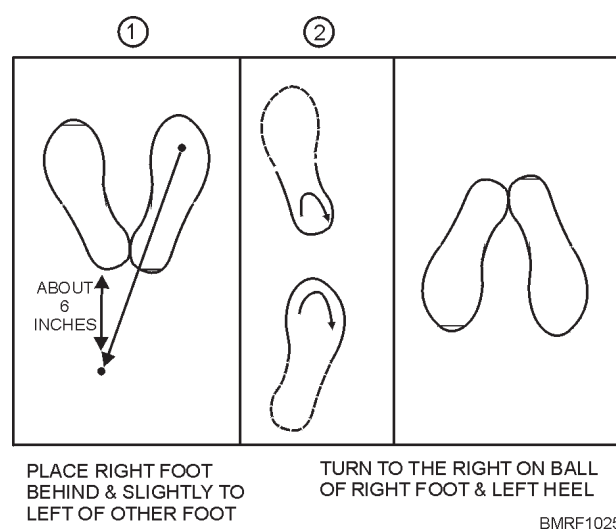

Figure 10-25.—About Face.
ABOUT FACE. About face is a two-count movement performed on the commands **About FACE**. On the command **About**, shift your weight to your left leg without noticeable movement. On the command FACE, (1) place your right toe about 6 inches behind and slightly to the left of your left heel (fig. 10-25; (2) on the ball of the right foot and the heel of the left foot, turn smartly to the right until you are facing the rear. Your feet will be in the position of attention when the turn is